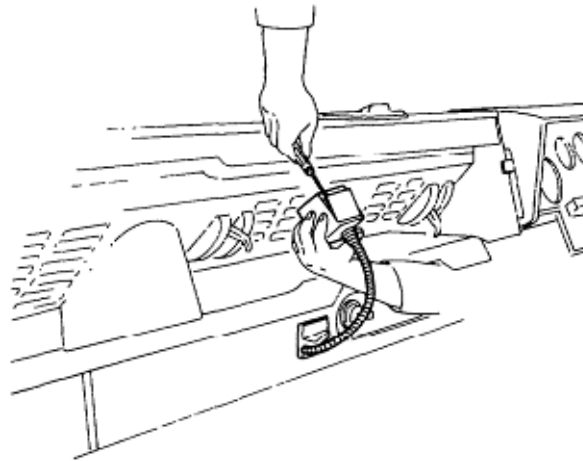

Figure 160 Map Reading Light Lens Removal
- Carefully pry the lens away from the body (Figure 160).